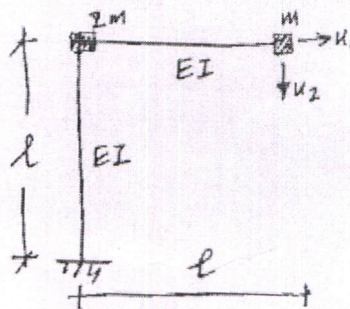

Fig.3
10. A). Formulate the free vibration for the two element frame as shown in Fig.3 Determine the natural frequencies and modes of vibration of the system. 10M